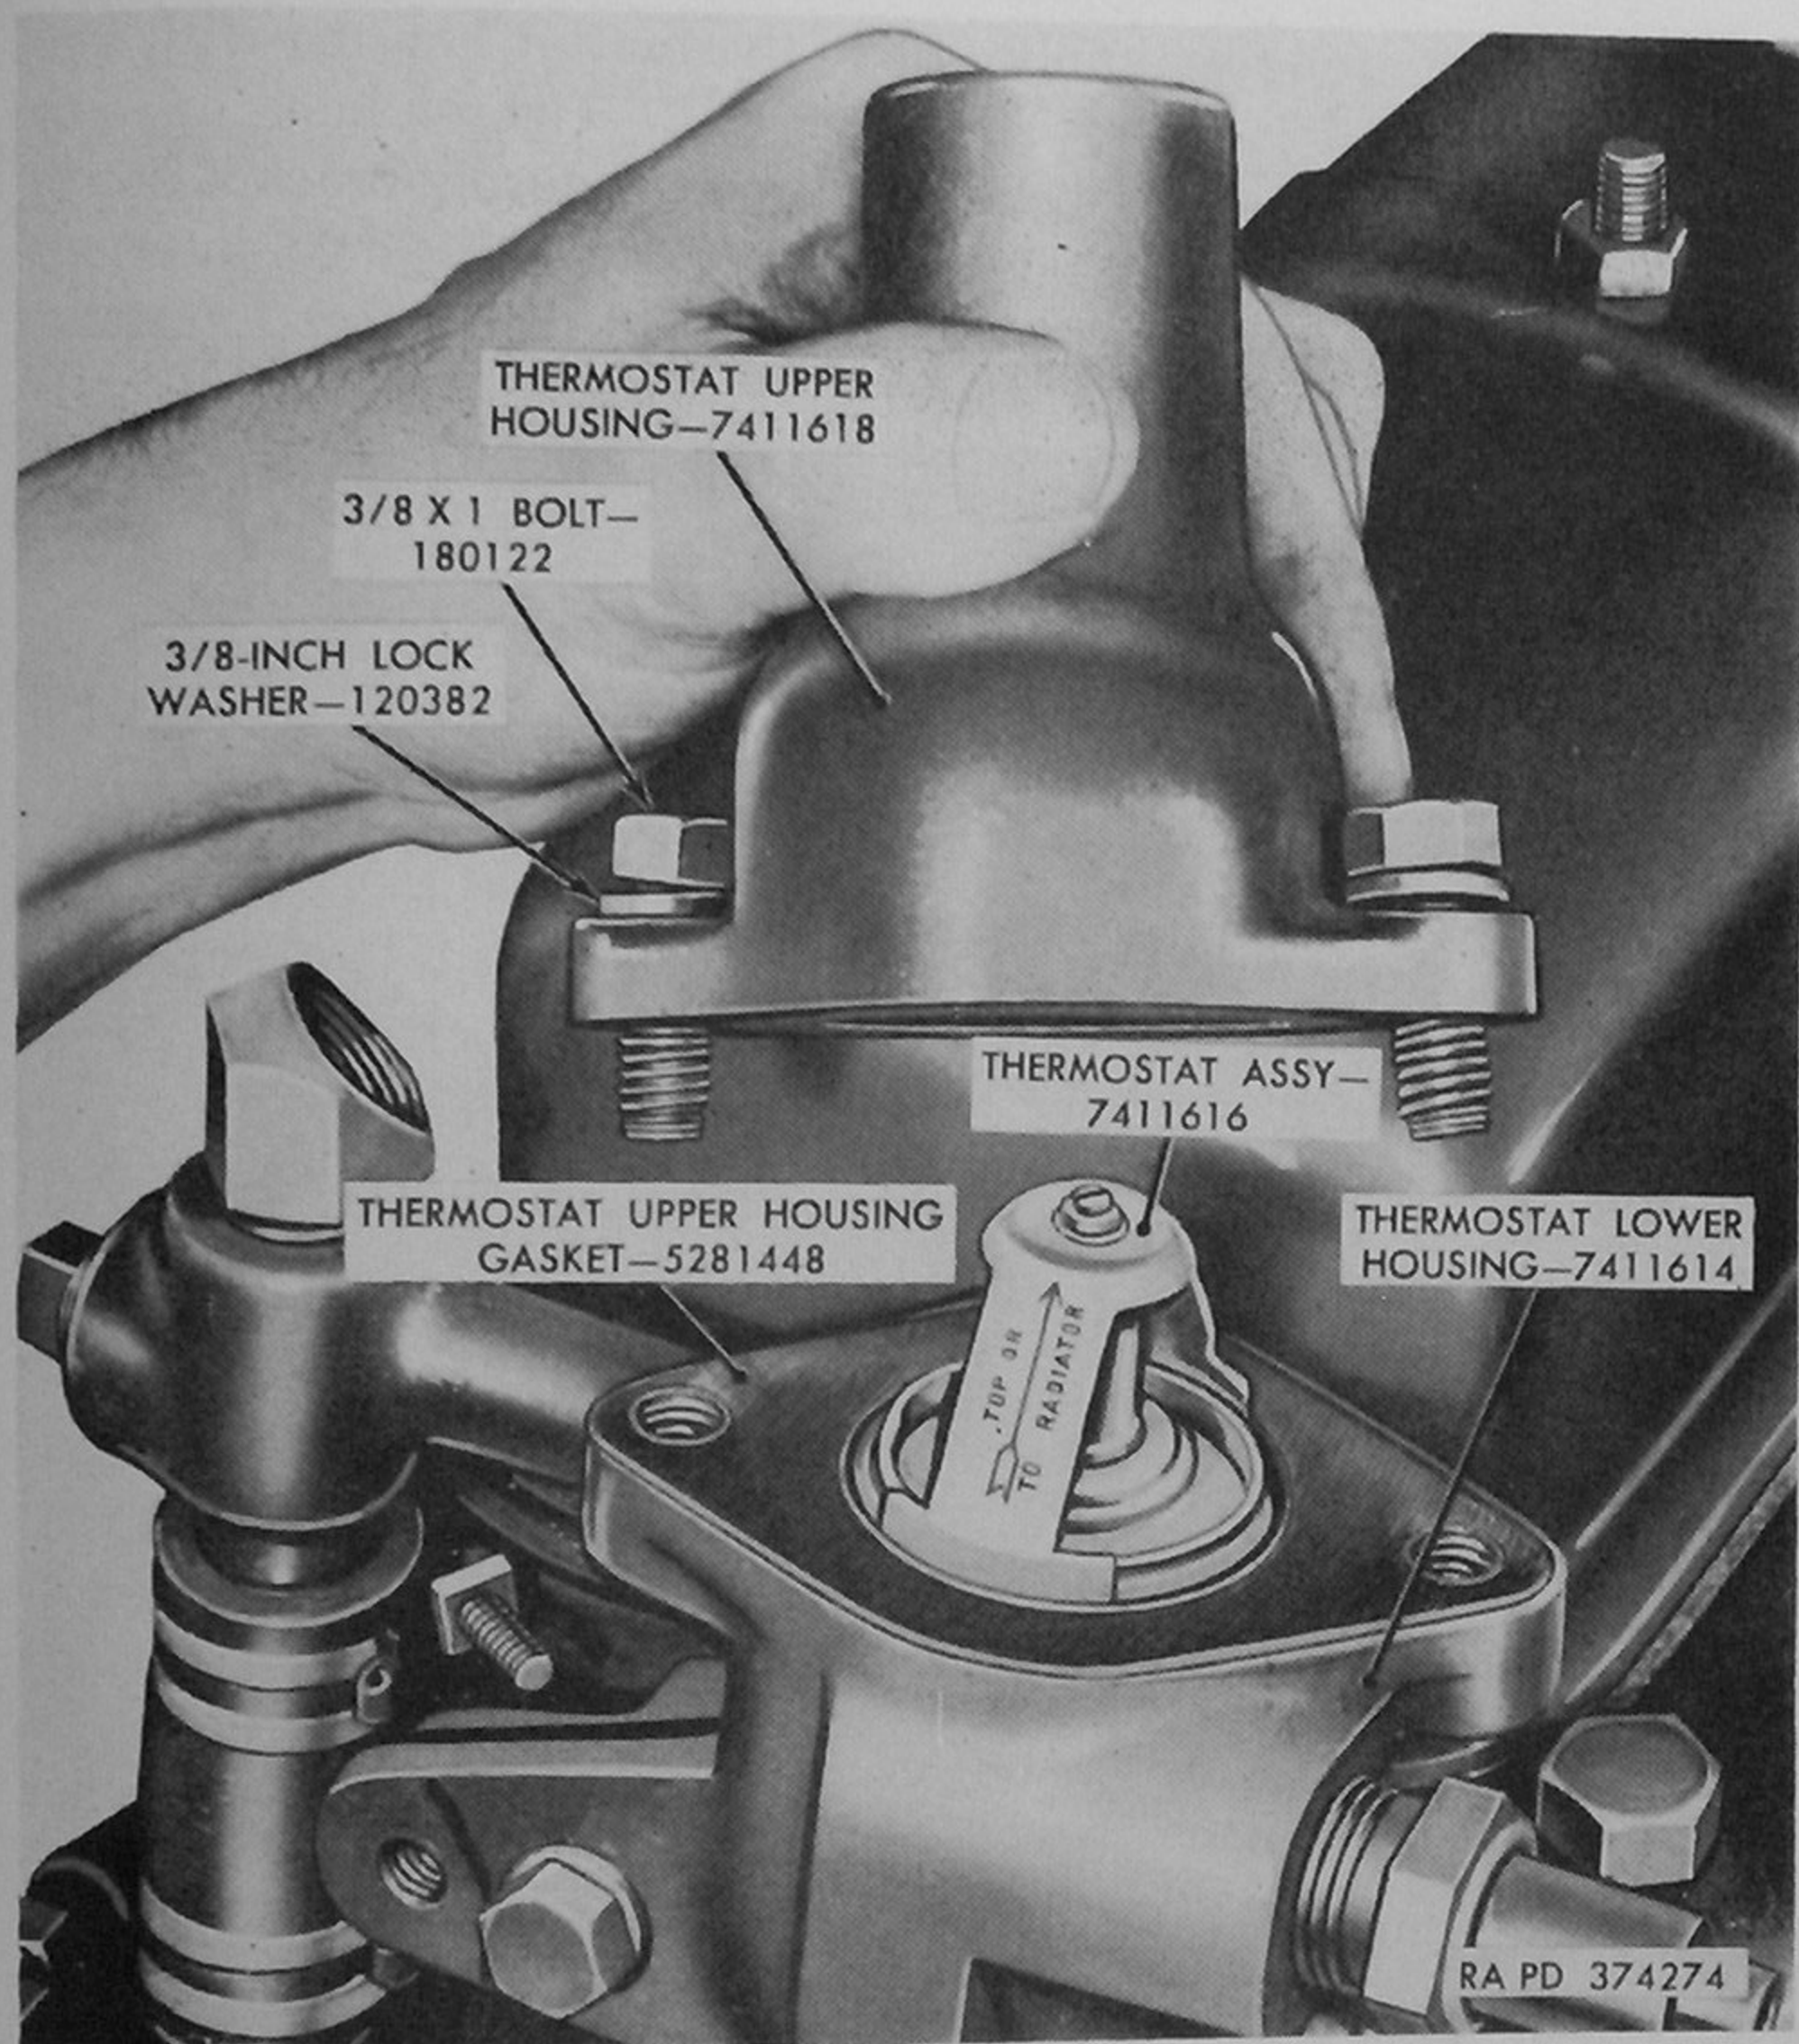

Figure 171. Removing or installing thermostat assembly—engine assemblies 7411599 and 8329440.
- (4) On engine assembly 7411599 or 8329440 only, place engine thermostat assembly (fig. 171) into thermostat lower housing, with stamped arrow on thermostat pointing upward as shown. Thermostat is installed on engine assembly 8726920 as described in paragraph 150. Place new thermostat upper housing gasket (fig. 171) over thermostat, then install thermostat upper housing on lower housing and attach with two  $\frac{3}{8} \times 1$  bolts (B, fig. 45) and  $\frac{3}{8}$ -inch lockwashers.